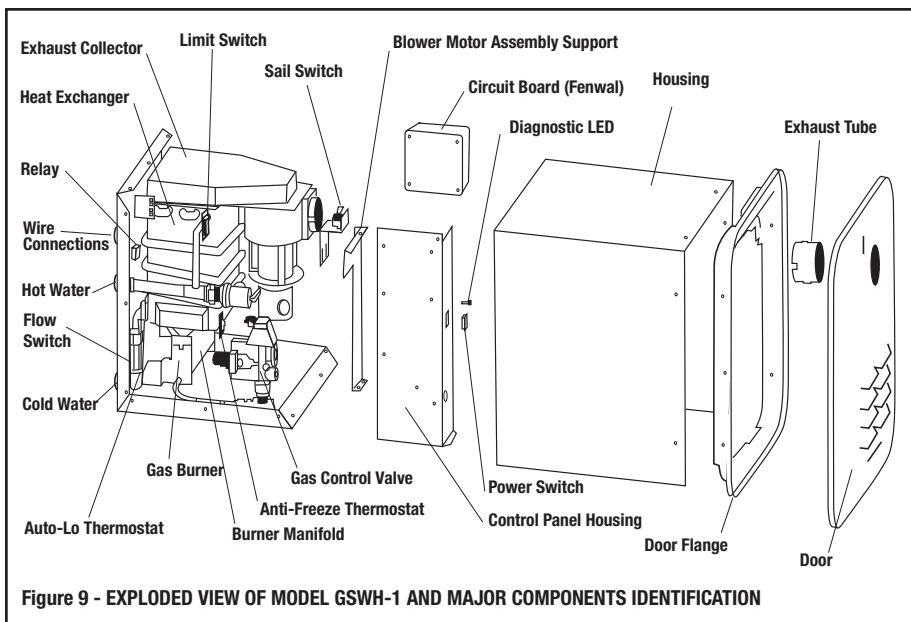

Figure 9 - EXPLODED VIEW OF MODEL GSWH-1 AND MAJOR COMPONENTS IDENTIFICATION
- 1. Figure 9:** Shows an exploded view of the GSWH-1 water heater with identification labels for all components.